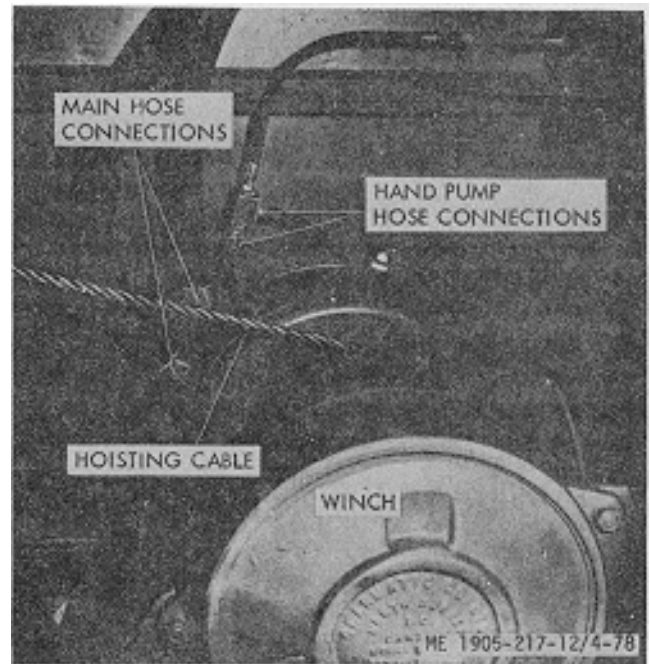

Figure 4-78. Ramp winch, hull numbers 8520 thru 8559.
**4-91. Winch (Hull Numbers 8520 thru 8539 (fig. 4-78))**